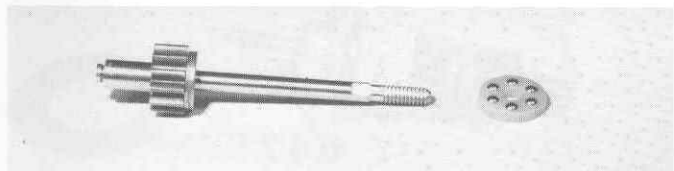

Fig. 53
- ☐ **Fig. 53** Slip the washer on the shaft. Slip the blue thrust bearing on, as shown. Now set this shaft aside until we do step #65.